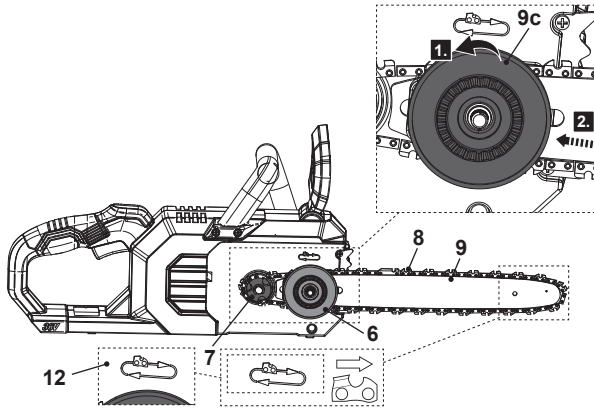

Fig. 3
5. Rotate the turning wheel (9c) anticlockwise to adjust the guide bar (9) towards the left to the end of slot. Align the saw chain (8) and guide bar (9) assembly with the drive sprocket (7) and the mounting bolt (6). Lay the saw chain (8) around the drive sprocket (7) and then lower the guide bar (9) to install it to the mounting bolt (6) (Fig. 3, steps 1, 2).